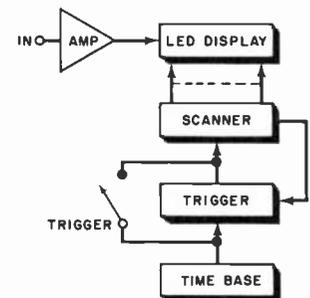
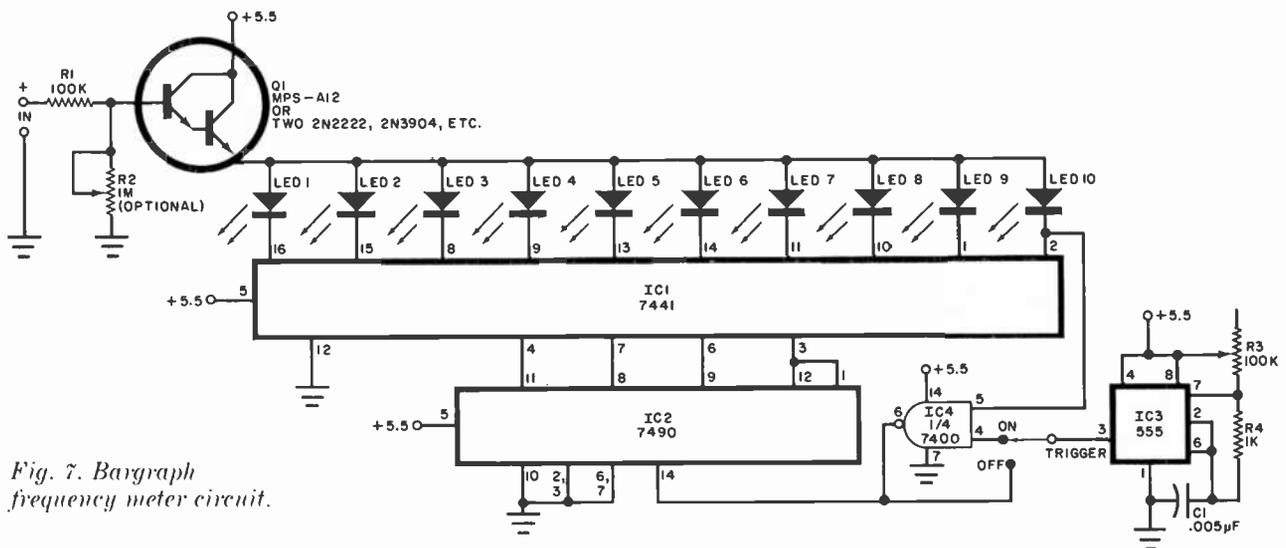

Fig. 6. Block diagram for bargraph frequency meter.
Fig. 7. Bargraph frequency meter circuit.
**Frequency-Sensitive LED Bargraph.** Believe it or not, you can make a frequency meter from a 555 timer, several TTL IC's, ten LED's, and a few miscellaneous parts. Figure 6 is a block diagram of the circuit; Fig. 7 is the schematic. Here's how it works: